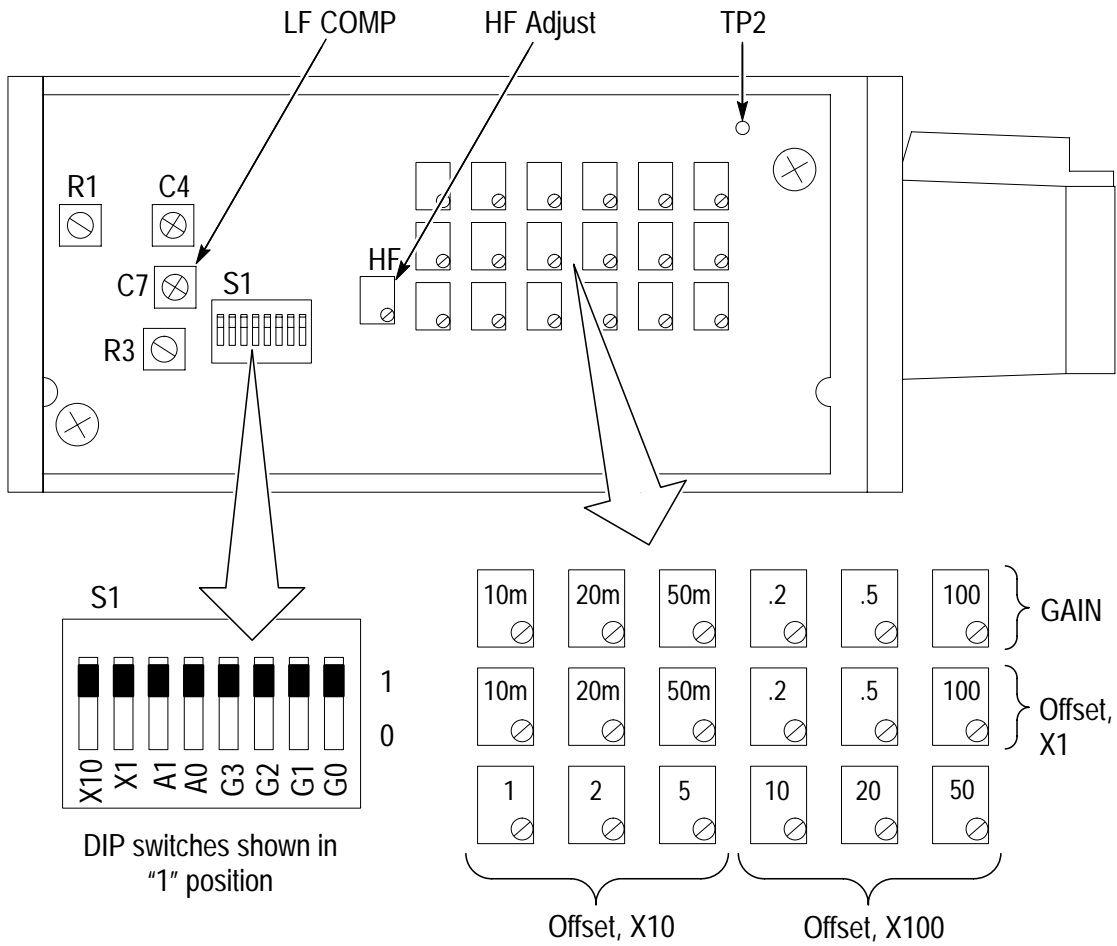
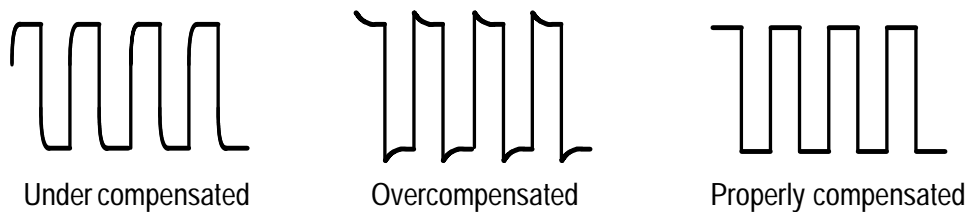

Figure 7: Location adjustments and DIP switches
Figure 9: Probe compensation waveforms
Figure 7 shows the locations of the adjustments and the DIP switches (S1) that manually set the probe attenuation (gain) range.
2. With the P6339A probe installed on the 1103 power supply, set all the DIP switches to the “0” position. See Figure 7 on page 18.
5. Adjust the LF COMP trimmer, C7 (Figure 7 on page 18), until you see a perfectly flat-top square wave on the display (Figure 9).